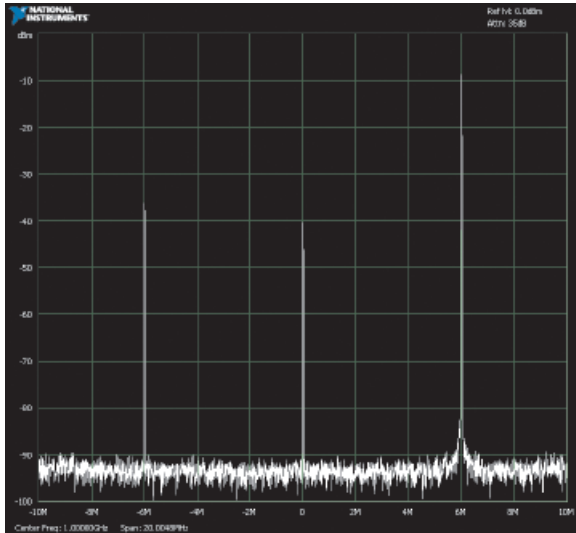

Figure 5. LO leakage and poor image rejection of a quadrature modulator cause undesired RF emissions.
- **Independent I and Q prefilter gain and offset** – Adds gain and offset imbalance impairments and I and Q prefilter gain. You can adjust the offset before or during the generation of an output signal (Figures 5, 6).